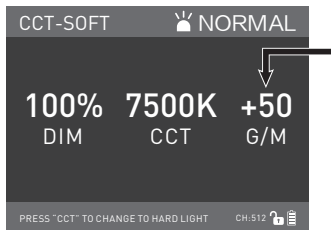

Figure 5
- (4) G/M setting: Rotate "SELECT knob", clockwise to increase the G/M value while counterclockwise to reduce the G/M value. G/M shows the G/M values on the display, the G/M range is from -50 to +50. Press the "SELECT knob" to reset its value to +00. (As shown in figure 5 ).